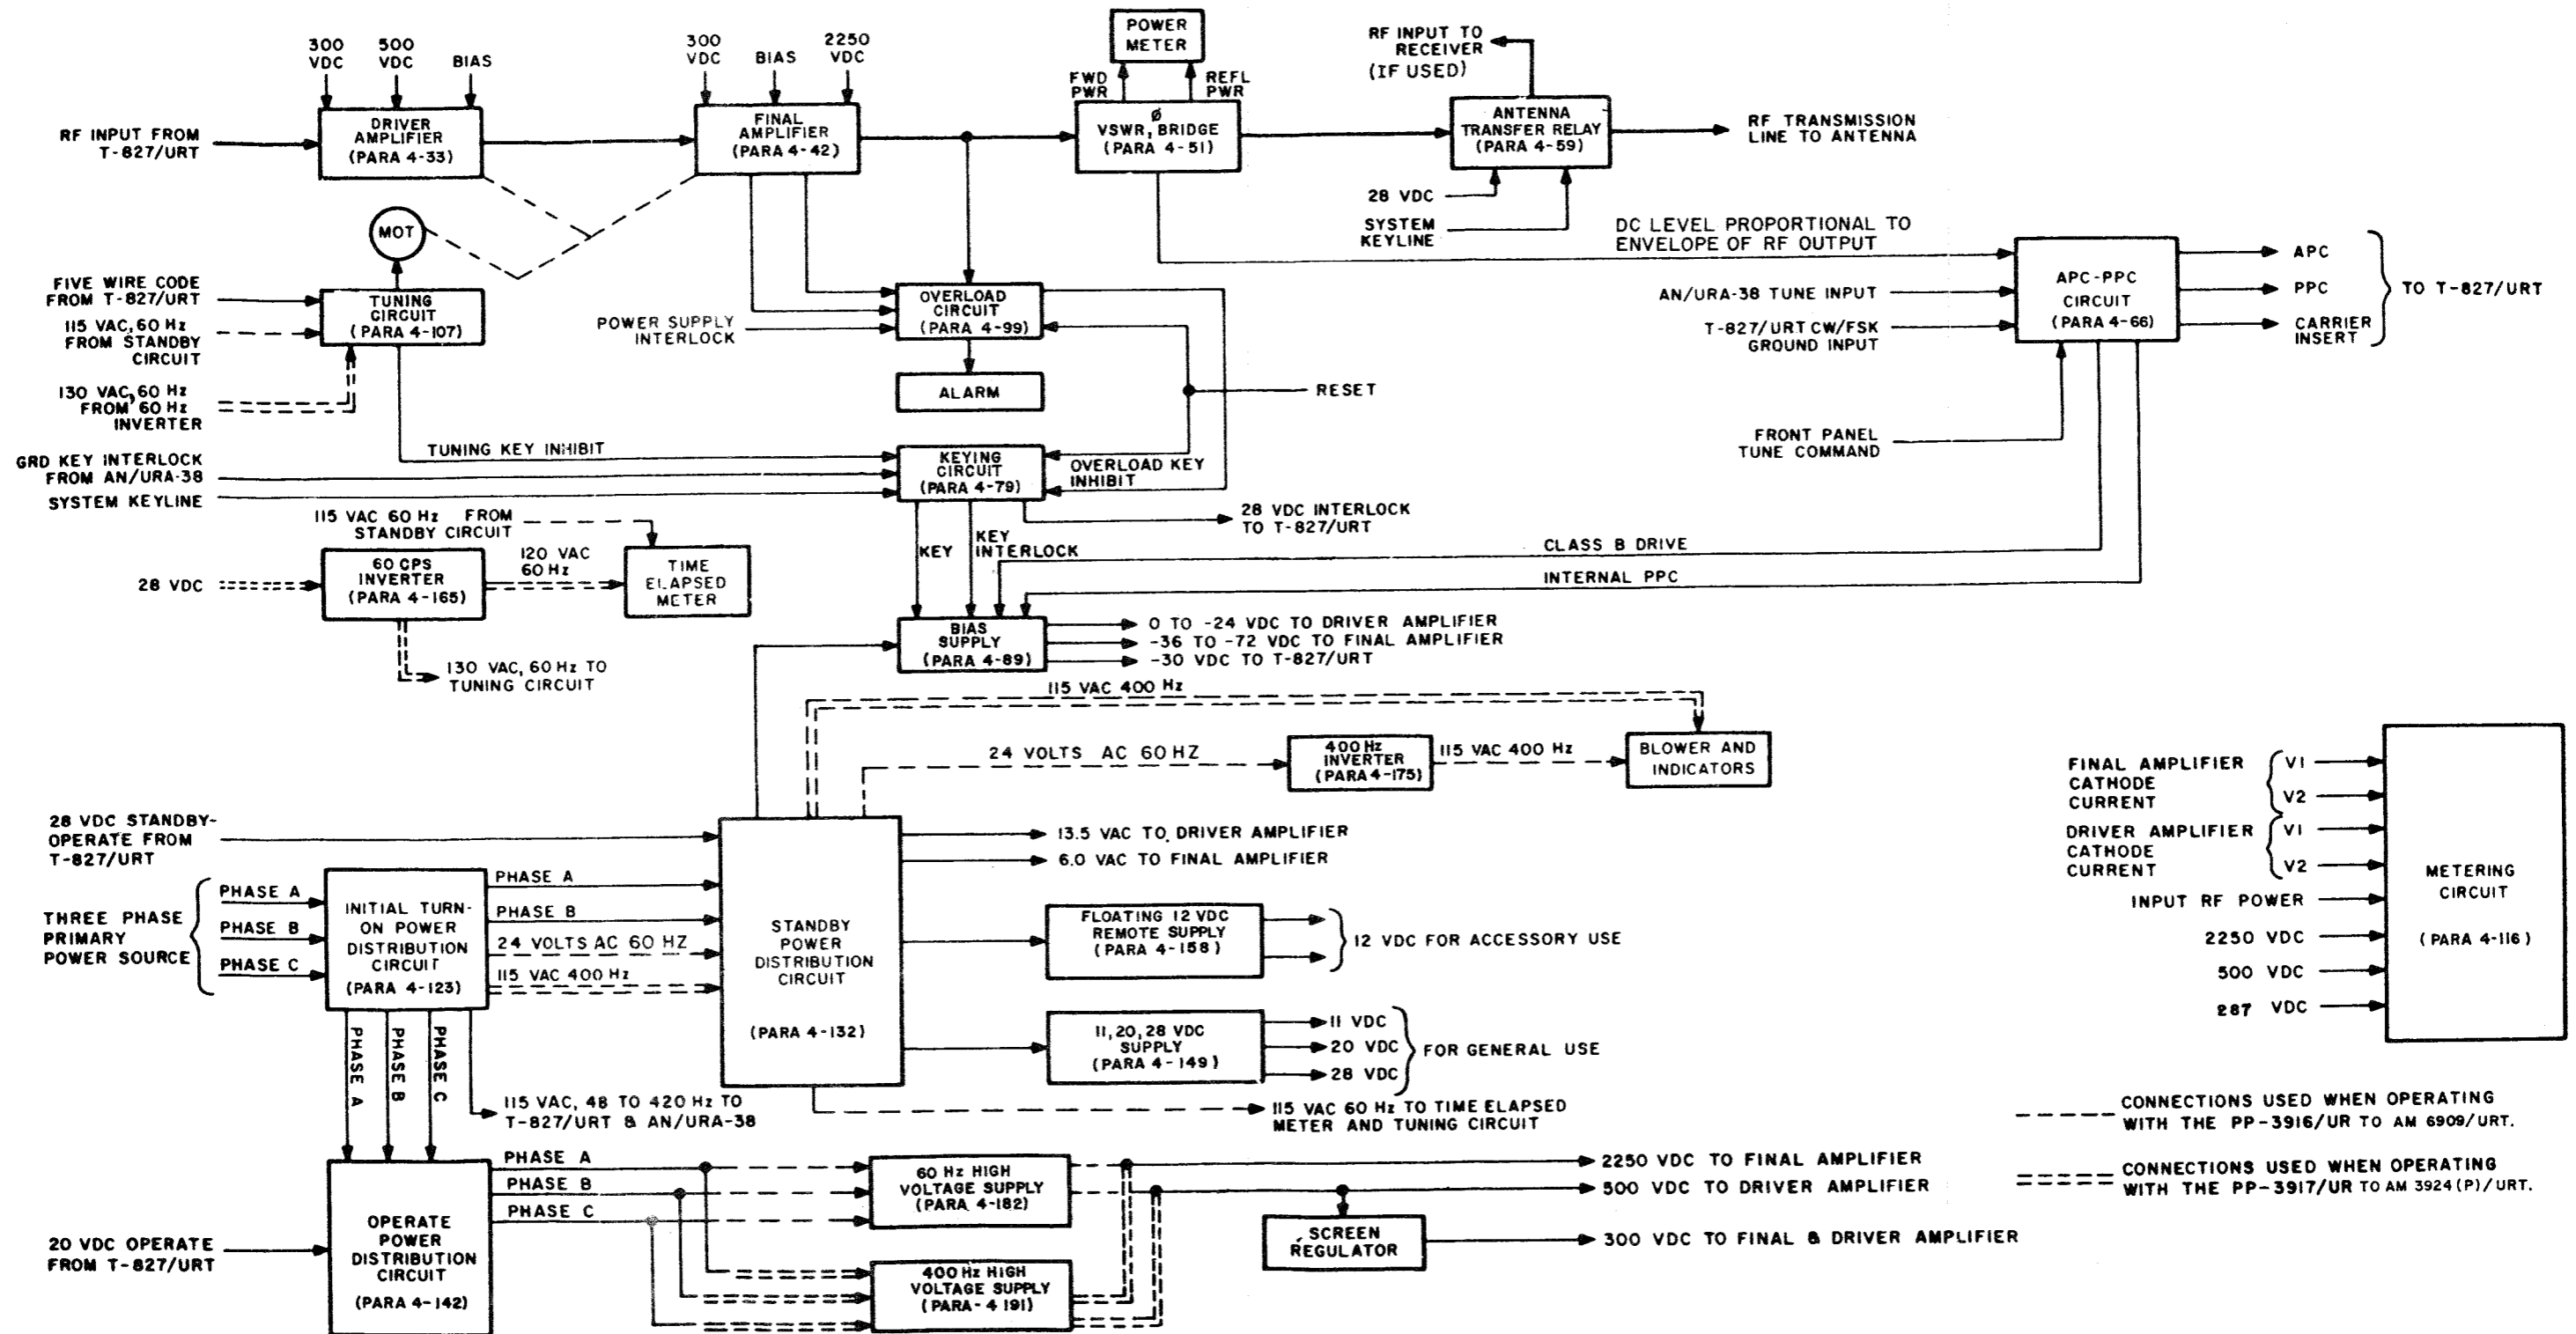

Figure 4-2. Radio Transmitting Set AN/URT-23(V), Functional Block Diagram
2. The AN/URT-23(V) (figure 4-2) is a 1 KW radio transmitting set which consists of an exciter (the T-827()/URT), a linear power amplifier (the AM-3924(P)/URT), and a power supply (the PP-3916/UR or PP-3917/UR depending on the frequency of the primary power). For information concerning the operation of the T-827()/URT, refer to Technical Manuals referenced in table 1-1. The AN/URT-23(V) is normally operated with the AN/URA-38 (an automatic antenna coupler system) and an auxiliary receiver such as the R-1051/URR.